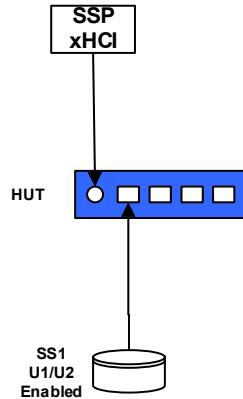

Figure 3-11: Hub and U1/U2 Enabled Device
- o Attach tree to the host as shown in Figure 3-11.
- Attach the configuration shown in Figure 3-11 to an available SSP xHCI port.